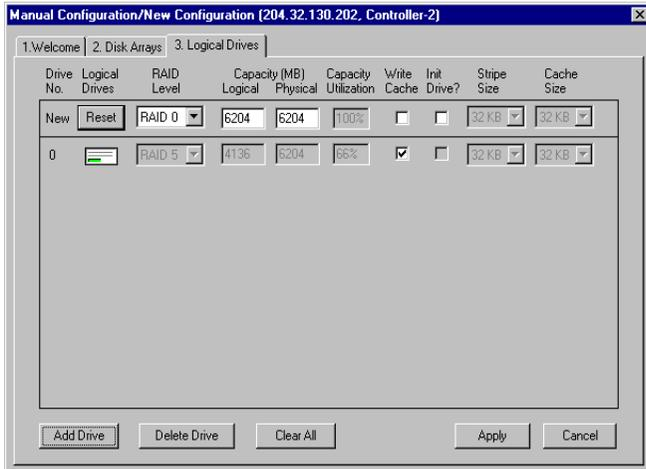

Figure 4-47. Manual Configuration - Logical Drives
- Once you've assembled the disk array groups, click the Logical Drives tab to continue on to logical drive setup (Figure 4-47):